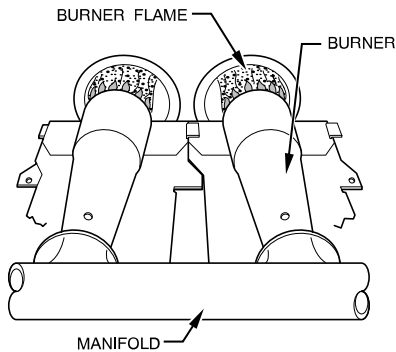

Fig. 66 – Burner Flame
- i. When correct input is obtained, replace cap that conceals gas valve regulator adjustment screws. Main burner flame should be clear blue, almost transparent, see Fig. 66.